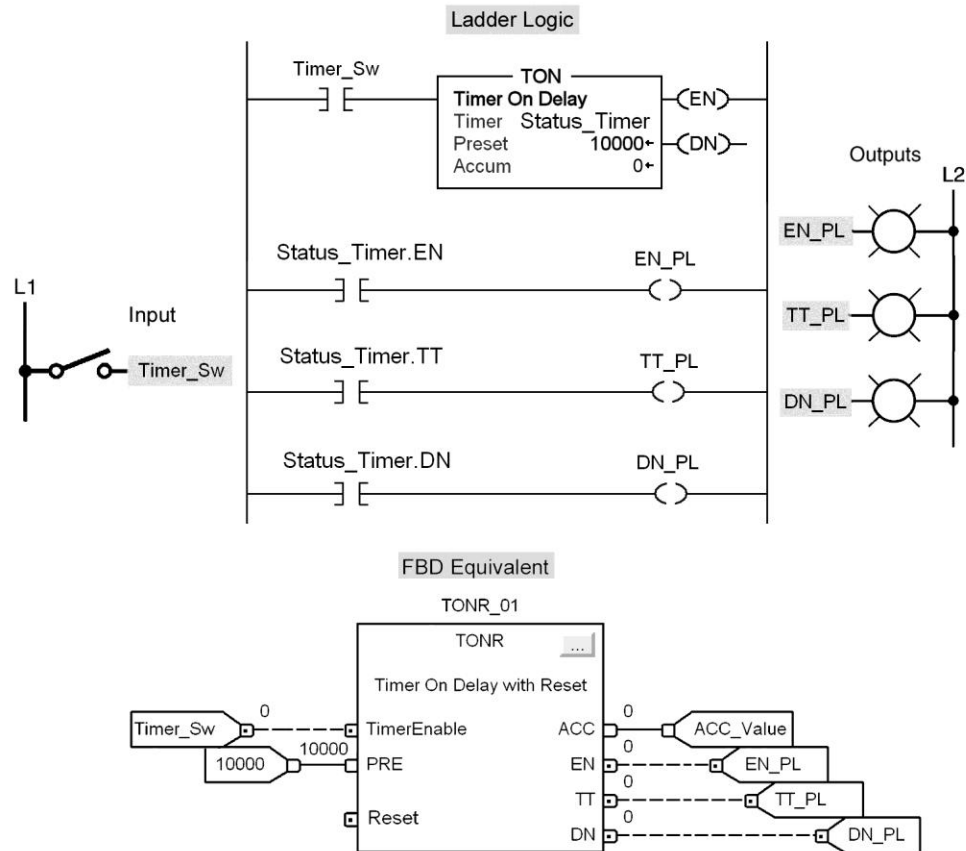

Figure 15-63 On-delay timer program for assignment 5.
5) The programs of Figure 15-63 show the ladder logic and the FBD equivalent for an on-delay timer. The operation of the FBD program is explained in the text. Prepare a function block program that will simulate its operation. Utilize field devices found on your ControlLogix installation. Enter the program into the controller, and verify its operation.